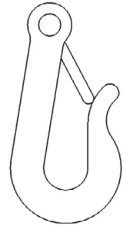

Figure 10
4. Each of the securement points is identified by the symbol shown in figure 10.